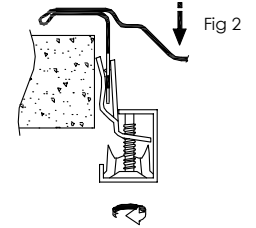

Fig 2
10. Rotate the clips to the direction shown in fig. 2 to clear the cut out. Pass the sink through the worktop cut out from above, align the sink straight to the cut out hole and worktop front edge.